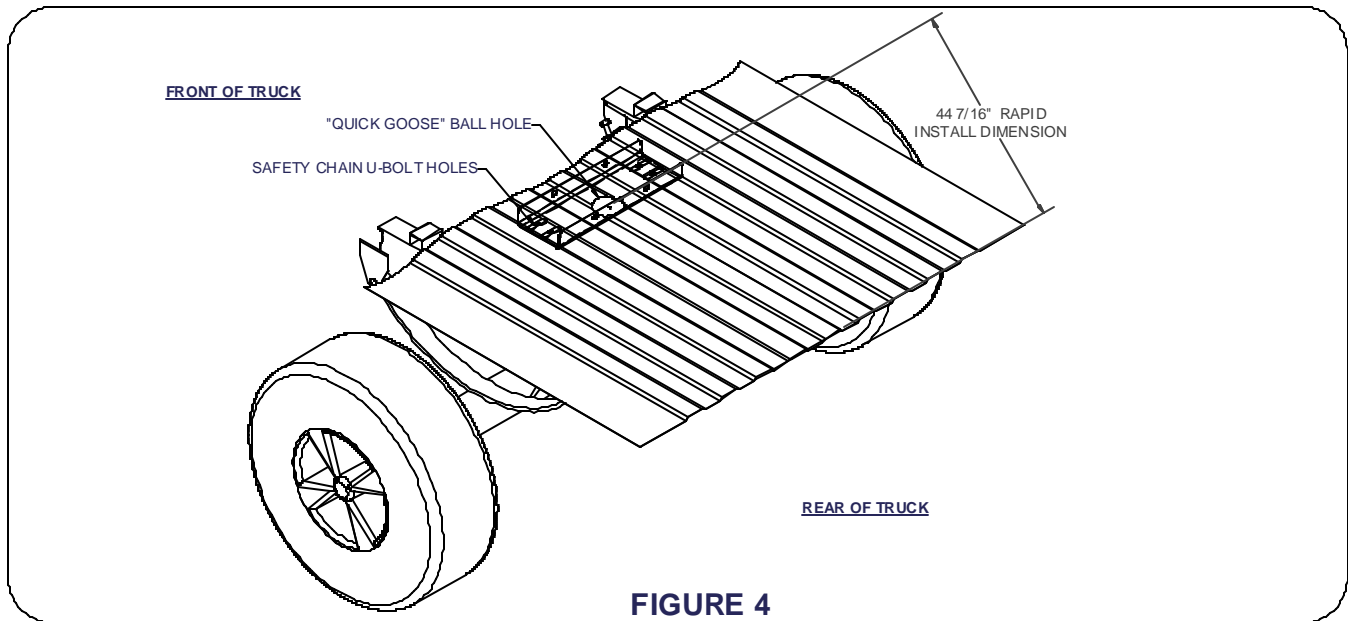

FIGURE 4
- 10) From inside the truck bed, position the drilling template as it was under the vehicle in step 9. **(See Figure 4.)** To hold template position, place a 1/4" bolt thru the template and the new hole in the bed. Use a tape measure to square the drilling template by measuring from the tail gate end of bed to the template. Using a 5/8" drill bit, drill the center of each slotted hole in template. **(Note: Be sure holes are drilled in the lower rib sections of the truck bed as shown in Figure 5.)**